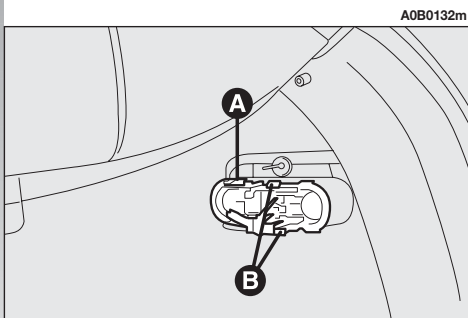

fig. 52
– Remove the bulb holder unit (**A-fig. 52**) pressing on the retainer tab (**B-fig. 52**).
– Reinsert the bulb holder unit fitting the retainer tabs correctly (**B-fig. 52**).